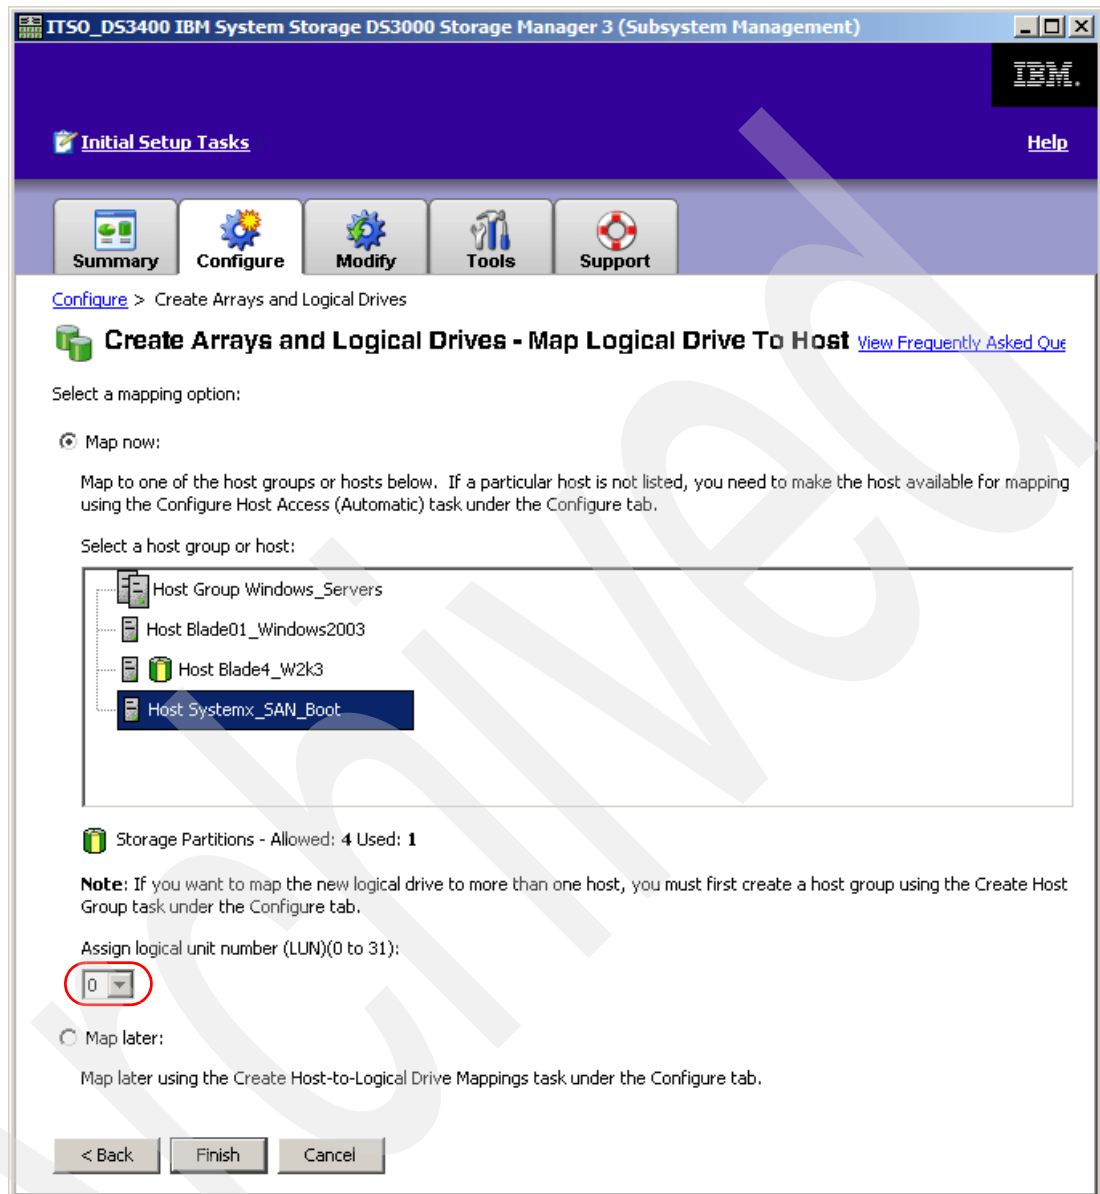

Figure 27-23 Map Logical Drive To Host
8. Now we map the host to the logical drive. Select the newly defined host SAN\_Boot\_Linux and assign the logical drive as LUN 0, as shown in Figure 27-23. Click **Finish** to continue.